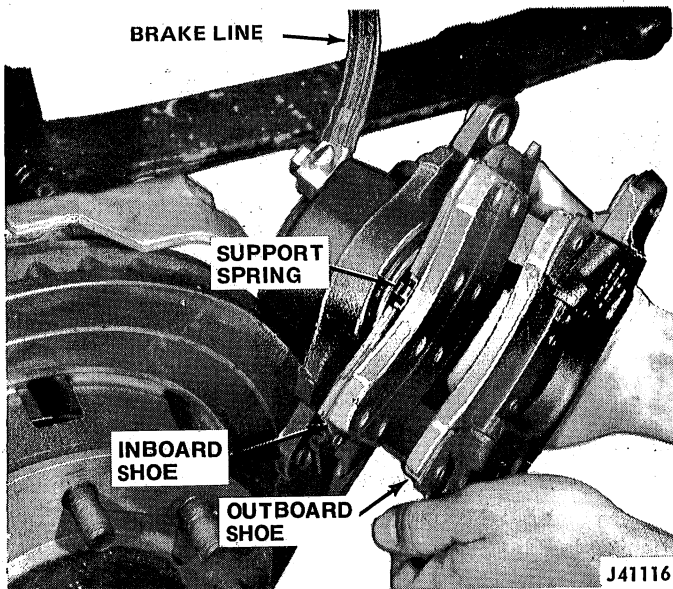

Fig. 2G-36 Caliper Removal
(7) Remove brakeshoes from caliper.
(8) Remove support spring from inboard shoe. Note spring position for assembly reference (fig. 2G-36).